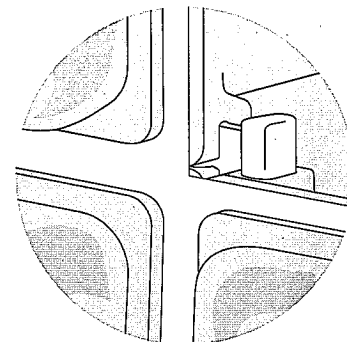

figure 2
4. You will notice eight (8) white plastic clips at the corners of new opening (figure 2) — four on the front perimeter and four on the back perimeter. With a utility knife cut away exposed portions of clips, flush with clip housings they are seated into.